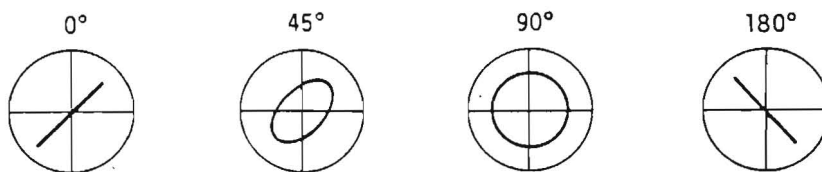

Fig. 2
6. Slowly rotate either one of the azimuth screw on the Normal head until maximum reading on the AC voltmeter, and minimum phase shift (90° or less) on the oscilloscope, are obtained (see Figs. 2 and 3).